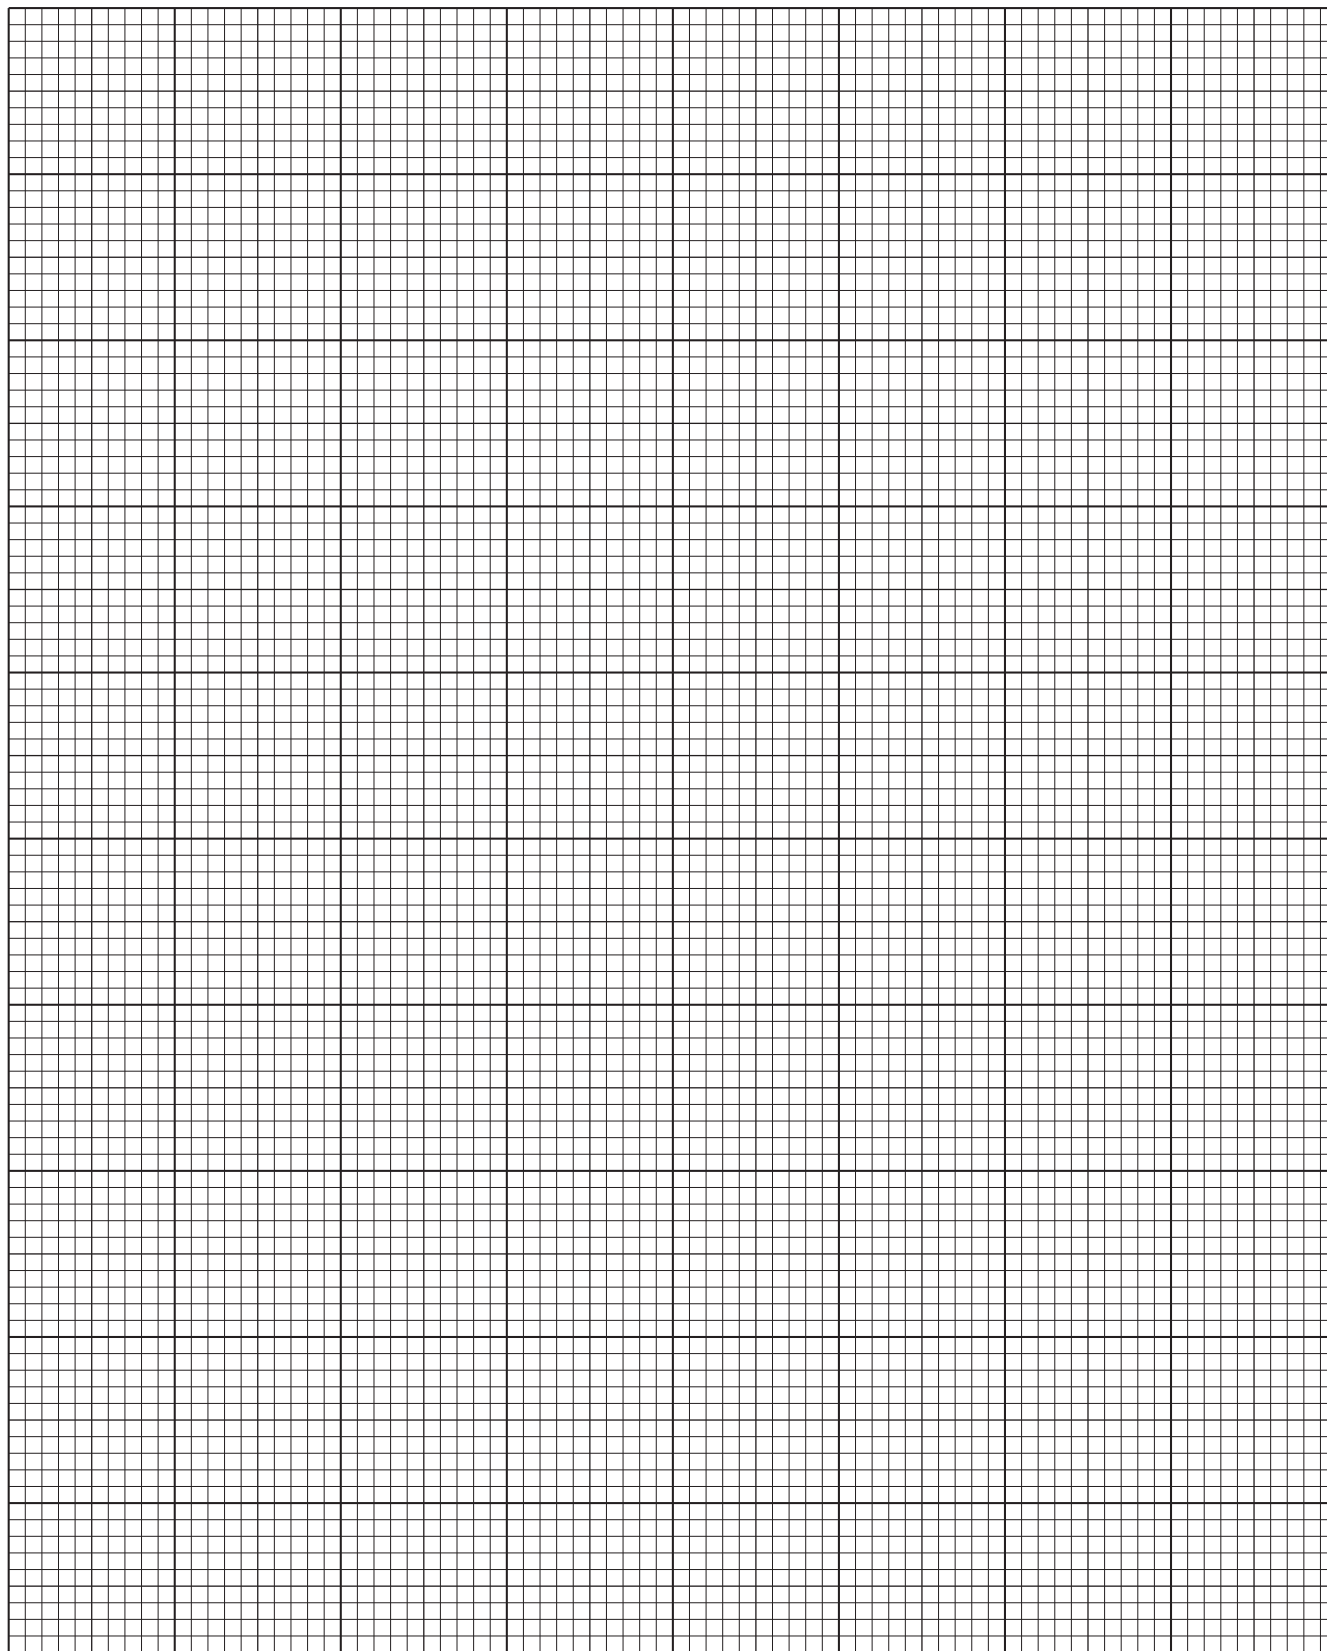

Fig. 1.1
- (b) (i)** On the grid in Fig. 1.1, plot the rate (*y*-axis) against the volume of **FA 1** (*x*-axis). Start each axis at the origin (0, 0).
- (ii)** Use your graph in Fig. 1.1 to determine the time it would take for the print to be obscured if 7.50 cm^3 of **FA 1**, 32.50 cm^3 of water and 10.0 cm^3 of **FA 2** had been used. Show clearly on the graph how you worked out your answer.